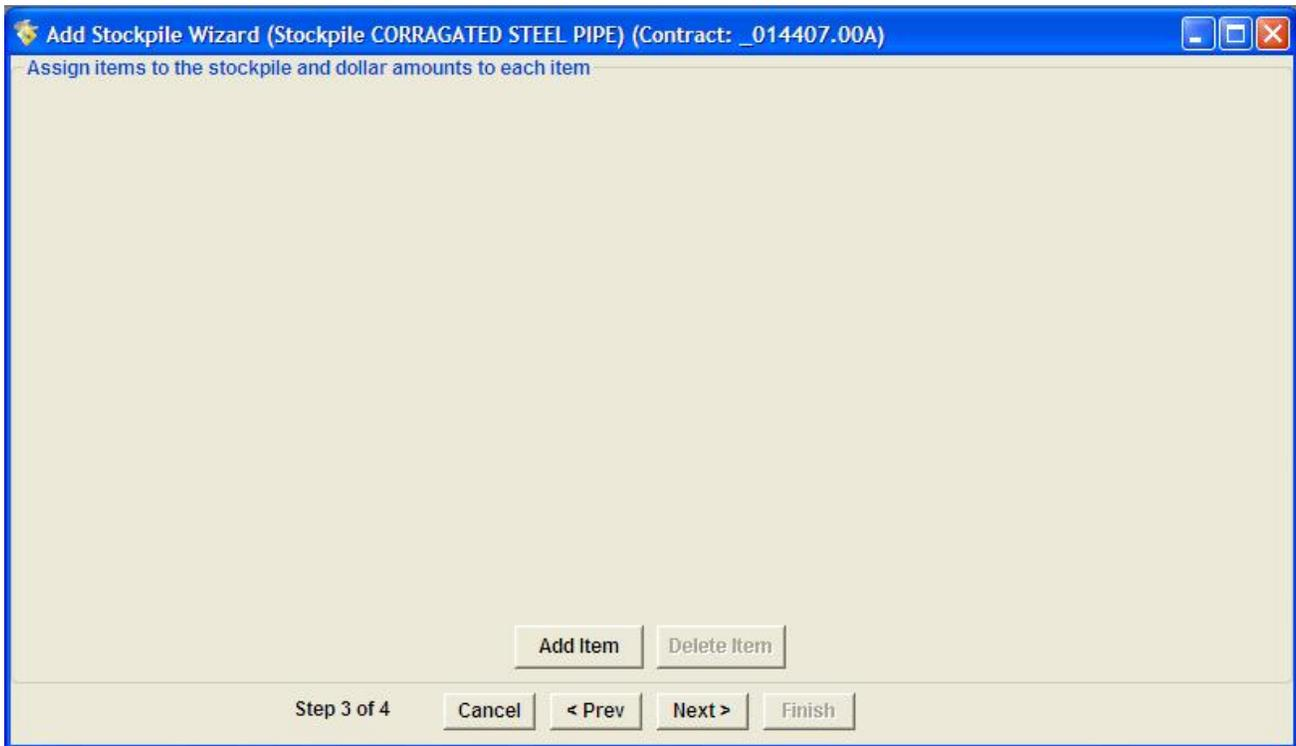

Figure 8-4
Step 3 of 4 asks you to assign items to the stockpile, and dollar amounts to each item (figure 8-4).